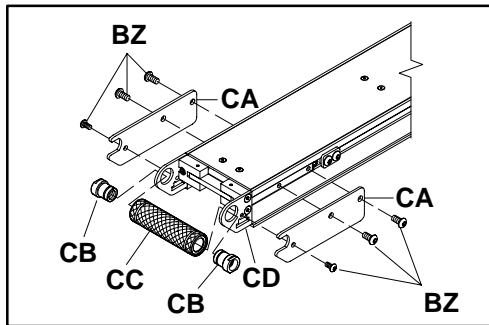
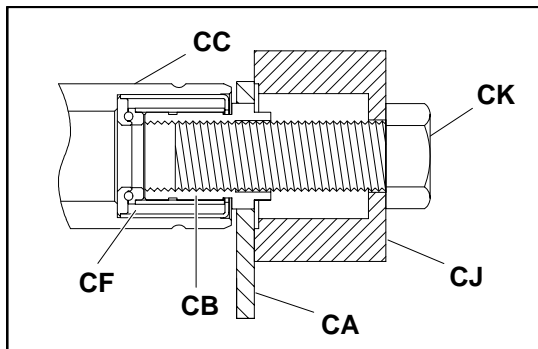

Figure 35
Figure 36
2. Remove the tail cover plate screws (BZ of Figure 35) and tail cover plates (CA) on both sides of the conveyor.
3. Position bearing anvil/sleeve removal tool (CJ of Figure 36), part number 25-09, over the retaining sleeve (CB of Figure 35 or Figure 36).
4. Insert threaded bolt (CK of Figure 36), part number 906-278, through the bearing anvil/sleeve removal tool (CJ) and into the retaining sleeve (CB).
5. Tighten the bolt (CK) until the retaining sleeve (CB) is free of the tail pulley plate (CA).
6. Remove the retaining sleeve (CB) from the bolt (CK) and repeat for the other side.
7. Remove the pulley (CC).